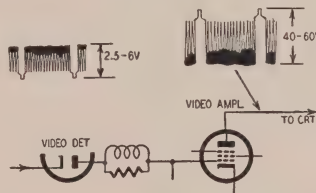

Fig. 4—Typical waveforms at the video amplifier grid and plate circuits.
2. **Signal tracing with an oscilloscope** In making bench checks for weak video, signal tracing with an oscilloscope is very effective. Check the waveform at the video detector load and measure the peak-to-peak voltage to determine if output at this point is below par (Fig. 4). Normally it is from 2.5 to 6 volts. Check the waveform at the plate of the last video amplifier, with the contrast control at the maximum clockwise position. The normal peak-to-peak voltage at this point is 40